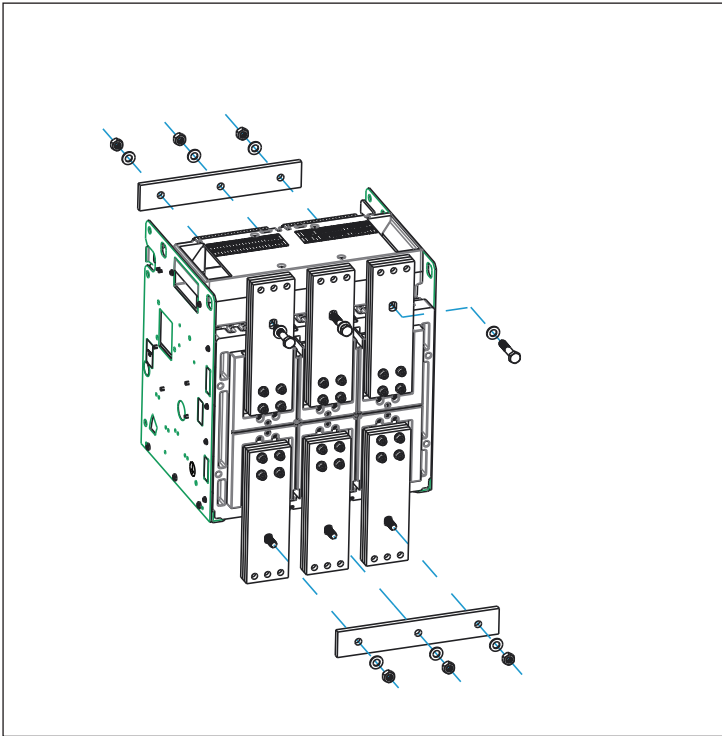

Figure 3. Step 2. - 3200A Shown
Step 2: Position the braces to the bus adapters as shown. Install the M12 hardware provided and hand tighten (Figures 3 – drawout shown). Braces for fixed and drawout configurations installed in the same manner.